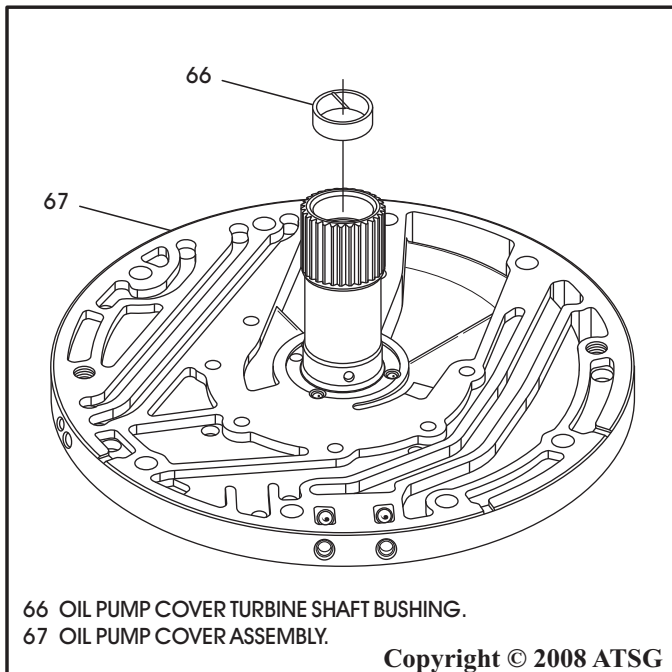

Figure 82
10. Install new stator shaft bushings as necessary, as shown in Figure 82, using the proper driver.